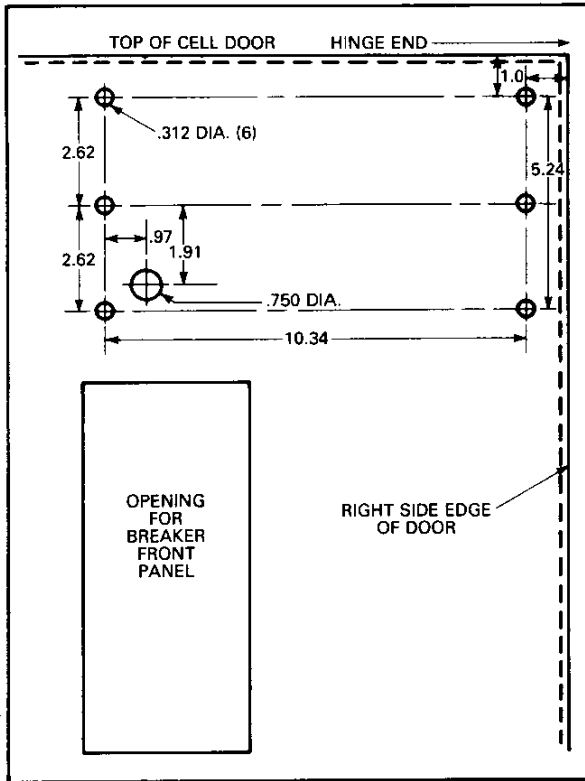
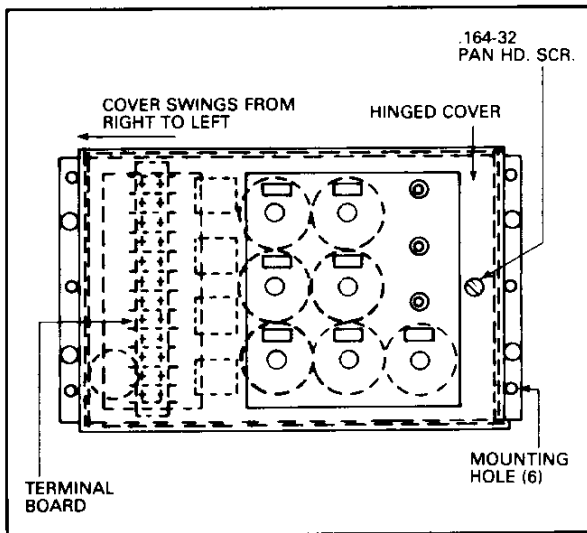

Fig. 7 Amptector Mounting Details Horizontal Mount AK-2A-25 Front View of Cell Door
Fig. 8 Amptector in Horizontal Position
1. Acquaint yourself with the location of the mounting holes and placement of the amptector, Figs. 7 and 8.
2. Facing the front of the door scribe a horizontal line one (1") inch from the top of the door and parallel to the edge of the door. Scribe a vertical line one (1") inch from the top right side of the door and parallel to the edge. The intersection of these two lines locates the hole for the amptector at the top right side of the door, Fig. 7.
3. From the top horizontal line measure a distance of 5.24 inches down and scribe a parallel line, Fig. 7 and from the vertical line measure a distance of 10.34 inches and scribe a line parallel to the vertical line. This now locates the four (4) outer hole location. Now locate the center line, and the two inner holes, Fig. 7.
4. Using the center line and the left vertical line locate the center of the grommet hole, Fig. 7.
5. Centerpunch all locations, drill six (6) .312 diameter holes and one (1) .750 diameter hole.
6. Place the grommet into the .750 diameter hole. Mount the amptector on the door using .25-20 x 1.0 pan head screw, washer, lockwasher and nut. Finger tighten the nuts on the screws, Fig. 8.